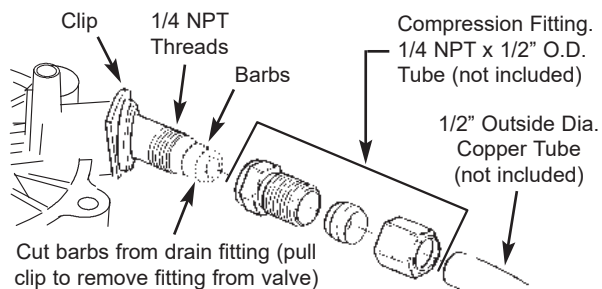

FIG. 6
The house cold water pipe (metal only) is often used as a ground for the house electrical system. The 3-valve bypass type of installation, shown in Figure 6, will maintain ground continuity. If you use the plastic bypass, continuity is broken. To restore the ground, do the following:
- a. Take a length of 1/2" inside diameter hose and attach to the valve drain fitting, securing it with a hose clamp (See Figure 6 on page 8).
- b. Locate the other end of the hose at a suitable drain point (floor drain, sump, laundry tub, etc.). Check and comply with local codes. Refer to Figure 6 on page 8 if codes require a rigid pipe drain run.